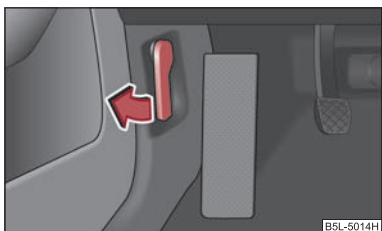

Fig. 12 Bonnet release lever
- Pull the unlocking lever below the dash panel on the left-hand side ⇒ fig. 12.